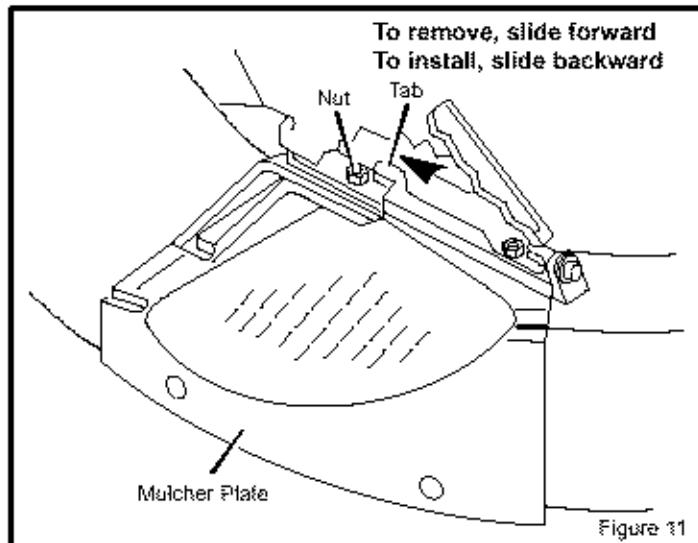

Figure 11
2. Slide the mulcher plate toward the front (Figure 11). Make sure the tabs on the mulcher plate are not locked behind the nuts.
3. Push the mulcher plate to the rear (Figure 11). Make sure the two tabs on the mulcher plate are locked around the two nuts for the deflector bracket.